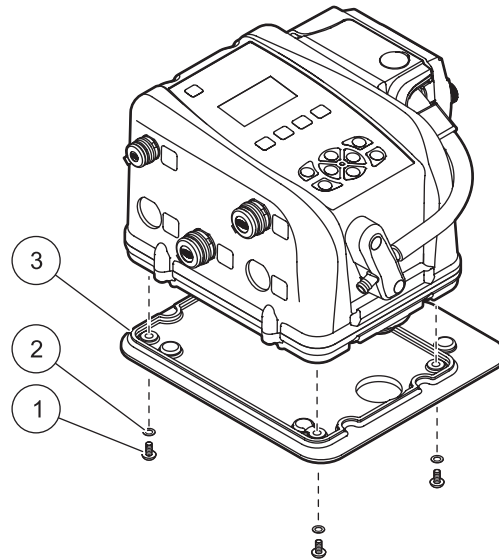

Figure 2 Installation of SD900 controller on the adapter mounting plate
- Position the adapter mounting plate on the bottom of the controller so that the holes in the plate align with the holes in the bottom of the controller (Figure 2).
- Secure the plate to the controller with the supplied screws and lock washers (Figure 2).